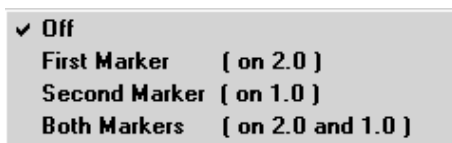

Fig. 5-375 Subcontext menu of the Normalized view
- Selection of **Normalized View** will give you a context submenu from which you can choose the following options (see Fig. 5-375):